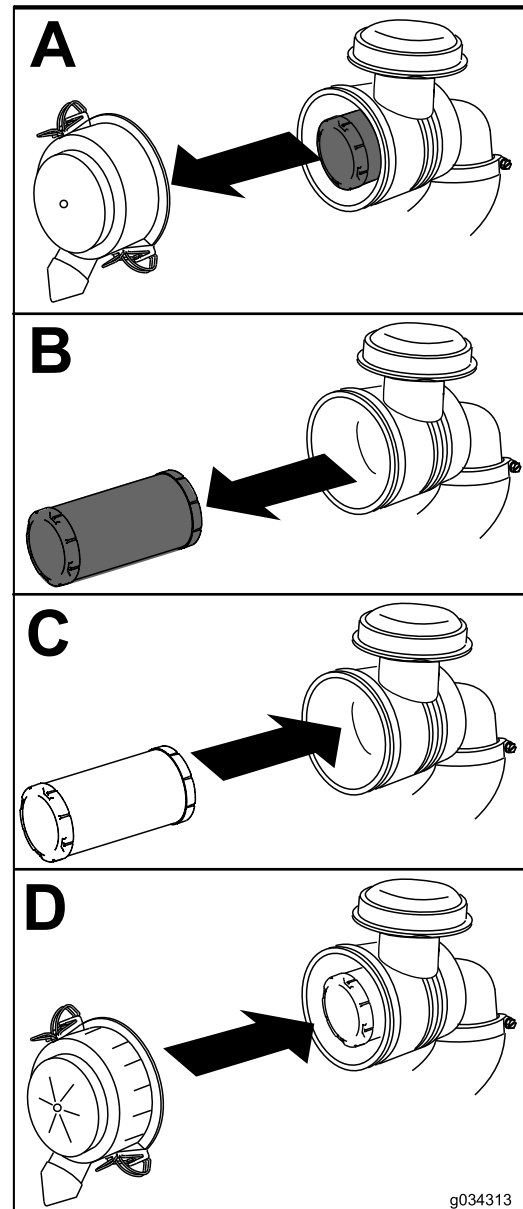

Figure 36
4. Install the air-cleaner cover with the side indicated as "UP" facing upward and secure the latches (Figure 36).
1. Gently slide the air filter out of the air-cleaner body (Figure 36).